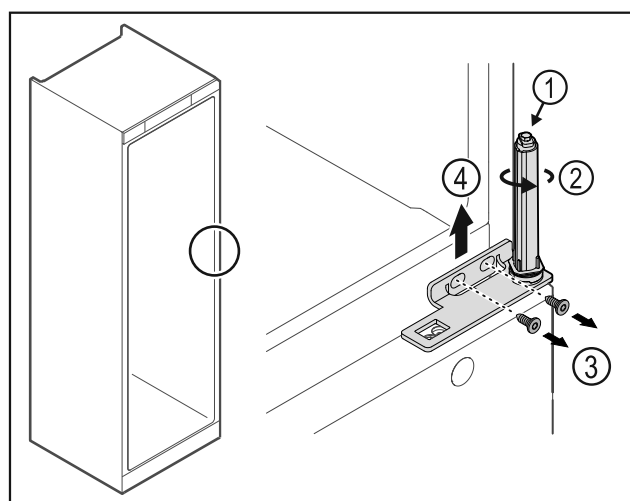

Fig. 23
- Do not disassemble the door closing system Fig. 23 (1).
- Turn the closing system Fig. 23 (2) until it clicks.
- Loosen the screws Fig. 23 (3) and lift off the hinge Fig. 23 (4).